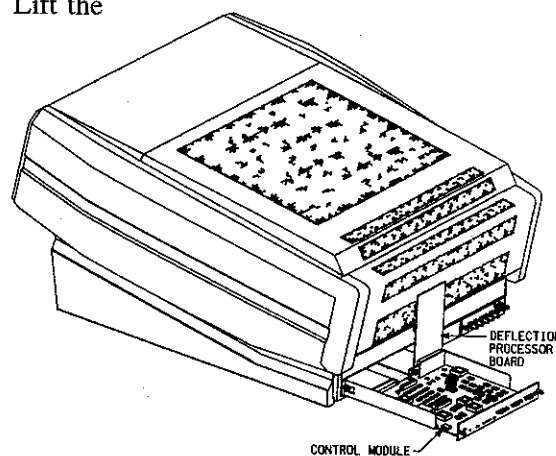

Figure 3-7. DPB Extension
- f) To expose the Control Board components located under the Deflection Processor or Stigmator Waveform daughter board, remove the screws which secure the daughter board to the Control Board. Lift the daughter board from the Control Board then plug it into the supplied jumper board. Plug the jumper board into the daughter board connector on the Control Board. Ensure that no part of the daughter board is contacting the rear ventilation panel of the projector. (Figure 3-7 shows the Deflection Processor Board raised and the Stigmator Waveform Board removed).